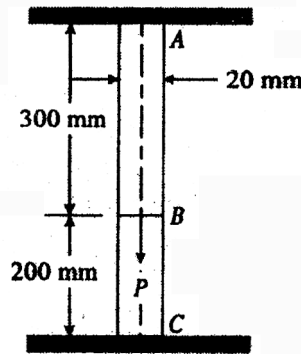

Fig. 1
1. (a) A square bar of 20 mm side is held between two rigid plates and loaded by an axial force  $P$  equal to 450 kN as shown in Fig. 1. Find the reactions at the ends A and C and the extension of the portion AB. Take  $E = 200$  GPa. [6]